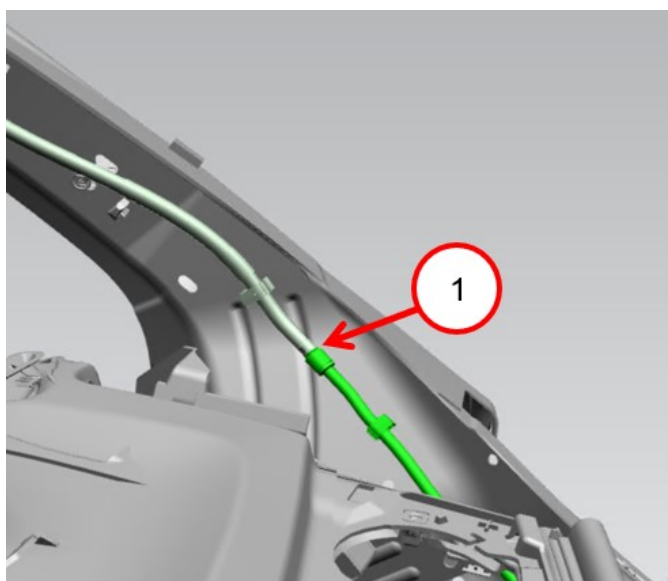

Fig. 9
15. Connect one end of the new hose to the rear windshield wiper inline hose Fig. 9.